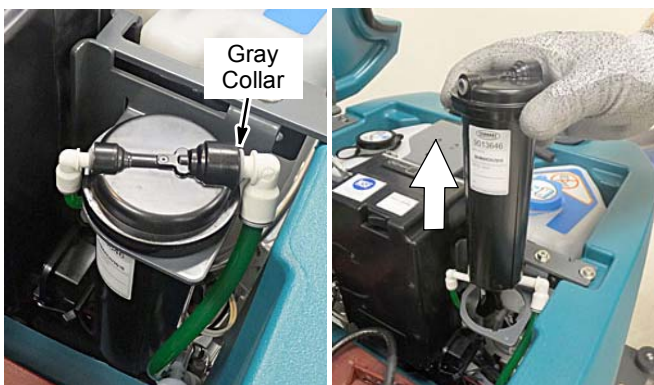

FIG. 138
3. Disconnect the two hose connectors from the top of the cartridge by pressing the gray collars inward and pulling the connectors outward (Figure 138). Lift cartridge to remove.